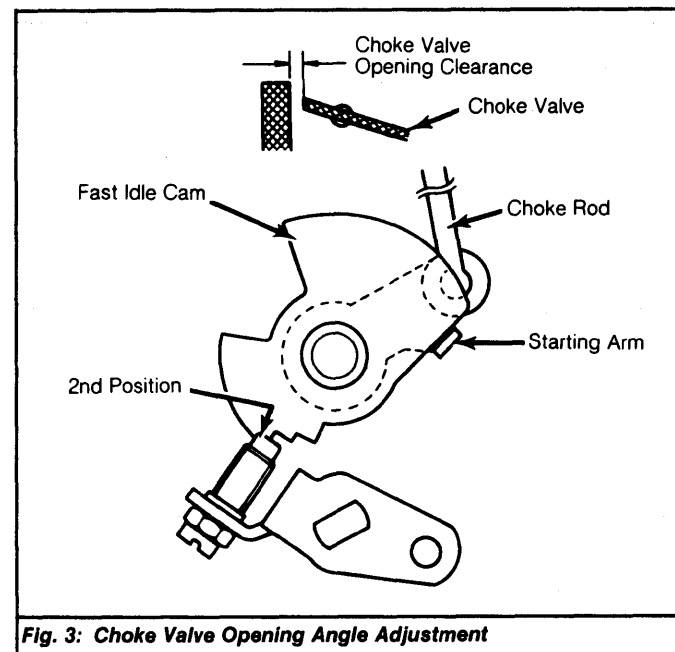

Fig. 3: Choke Valve Opening Angle Adjustment
1) Place fast idle screw on 2nd step of fast idle cam. See Fig. 3. Adjust choke valve opening clearance by bending starting arm. If a large adjustment is necessary, bend choke rod.